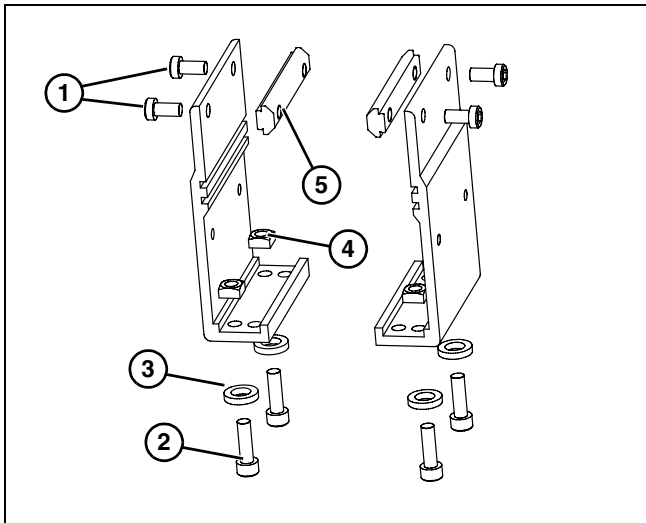

**Figure 4**
- Remove and discard shipping brackets (**Figure 4, item 1**).